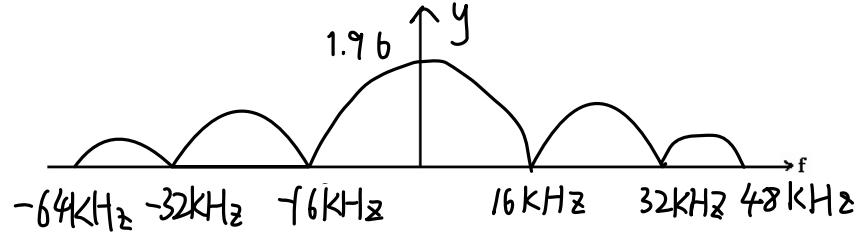

Figure 10: Frequency domain view.
- In the space provided below in Figure 10, draw the frequency domain view of the sampled signal. [1 mark]